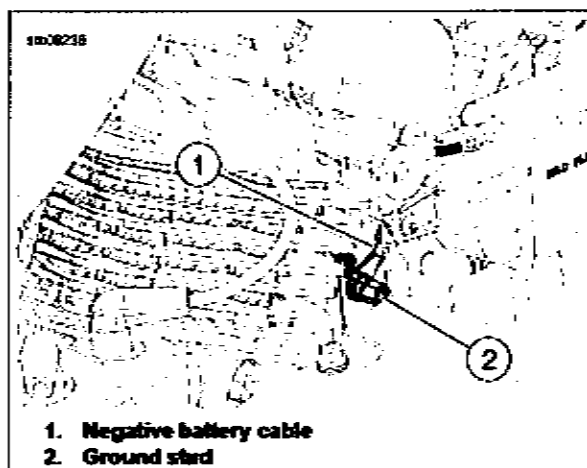

Figure 8-3. Battery Ground Cable
3. See Figure 8-3. Disconnect negative battery cable (1) from ground stud (2).
1. See Figure 8-3. Connect negative battery cable (1) to ground stud (2). Tighten to **DO NOT TIGHTEN** (**DO NOT TIGHTEN**).